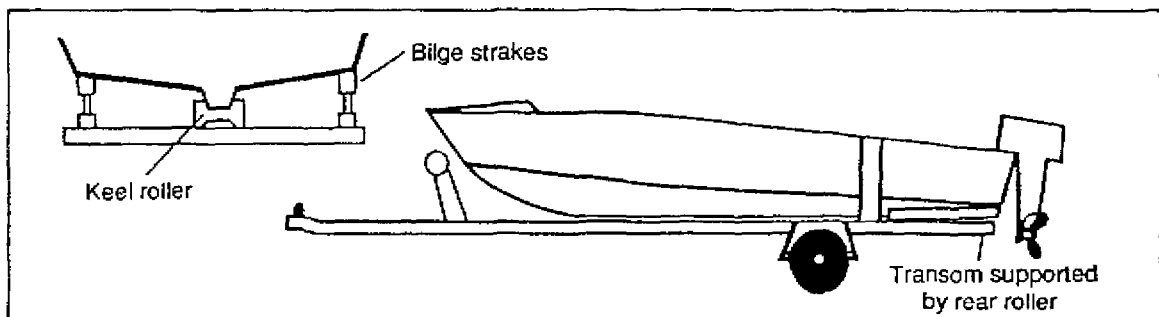

Figure 6:2
- 6.06 A boat being carried on a trailer needs to be supported along its keel. All keel rollers must be adjusted to allow the boat load to be distributed evenly. When this has been achieved the bilge strakes are adjusted to brace the boat against lateral movement. A properly adjusted trailer will carry its boat on an even keel with the bow winched firmly against the stem post and the transom supported by the rear roller (see Figure 6:2).